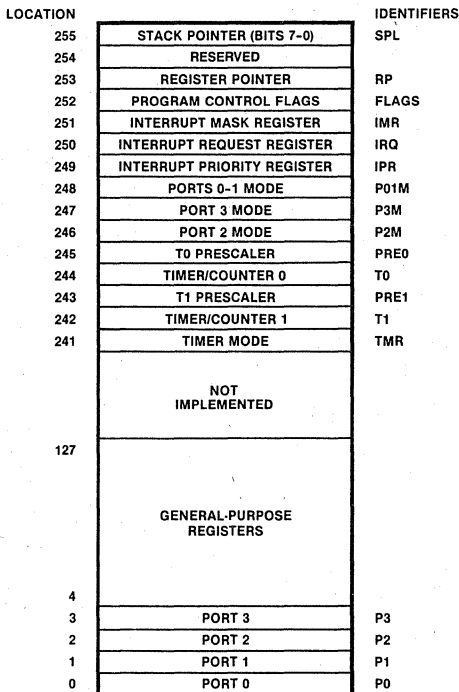

Figure 5. Register File
**Register File.** The 144-byte register file includes four I/O port registers (R0-R3), 124 general-purpose registers (R4-R127) and 15 control and status registers (R241-R255). These registers are assigned the address locations shown in Figure 5.